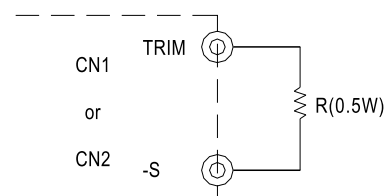

Fig. 3.2 Output voltage trimming
- (2) Connecting a resistor externally between TRIM and -S on CN1 or CN2 that is shown in Fig. 3.2.